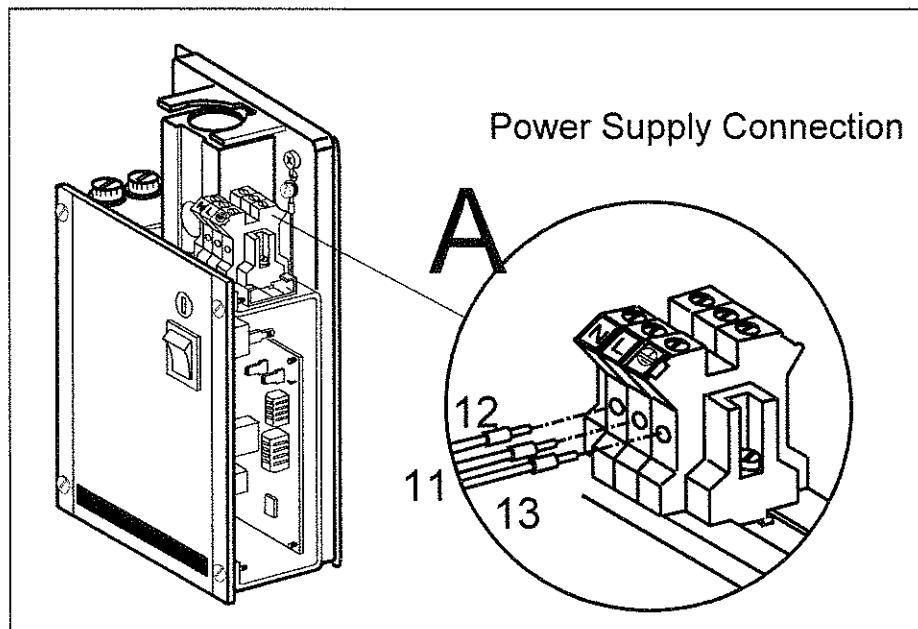

Figure 16 Power Supply connection
- d) Connect Line Voltage (Figure 16 on page 29) to Timer terminal block with a proper wire size. Insert wires into Timer's terminal block according to specific positions: L = Live "11", N = Neutral "12" and Ground "13" (see enlarged "A" on the above mentioned figure).